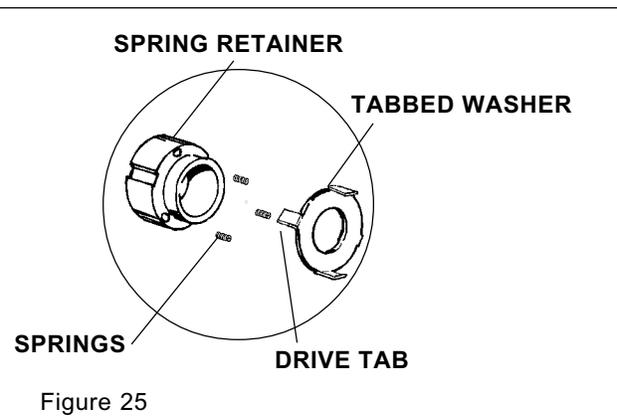

Figure 25
5. Slide the tabbed washer over the impeller shaft and engage the tabs of the washer into notches on the outside of rotary seal. (Figure 25)
6. Install the three seal springs into holes in the spring retainer. *Hold the springs in place with RTV silicone sealant.* Slide the spring retainer over the impeller shaft until the slots in the spring retainer engage the drive tabs on washer and springs rest against the washer. (Figure 25)